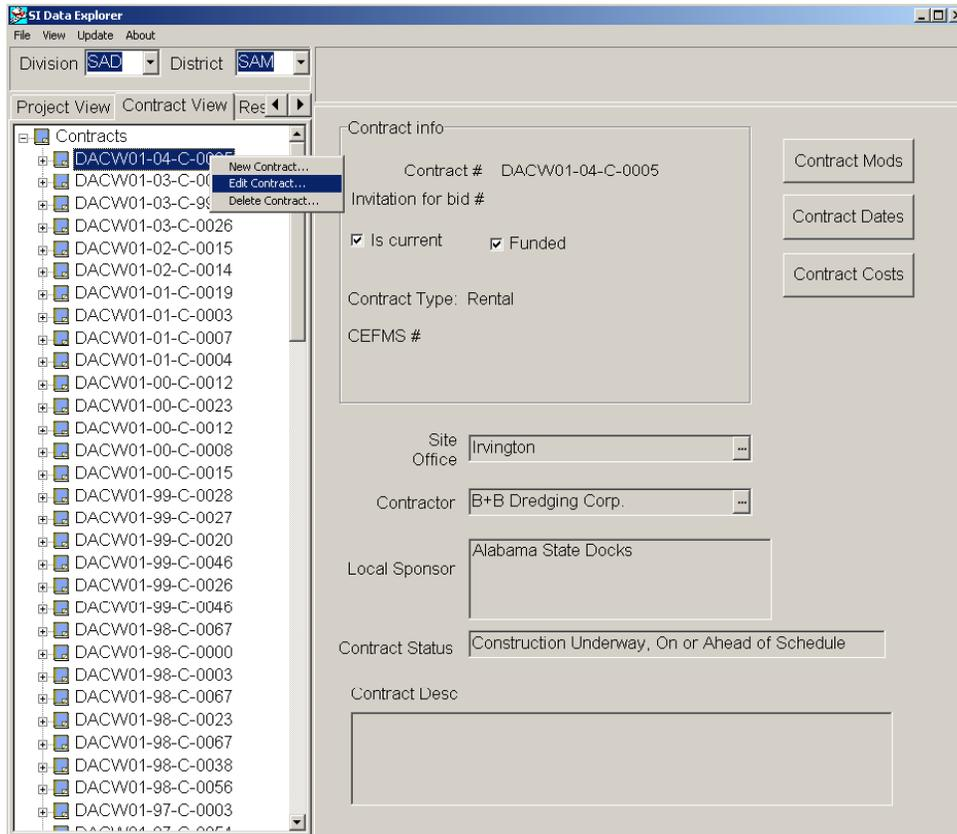

Figure 1.54. Viewing, creating, and modifying individual contracts.
2. Select *Contracts* at the top of the Contract View Window. To view the details of an individual contract, click on that contract in the Contract View Window (see Figure 1.54). New contracts can be created and existing contracts can be modified or deleted by right clicking on the contract in the Contract View Window.